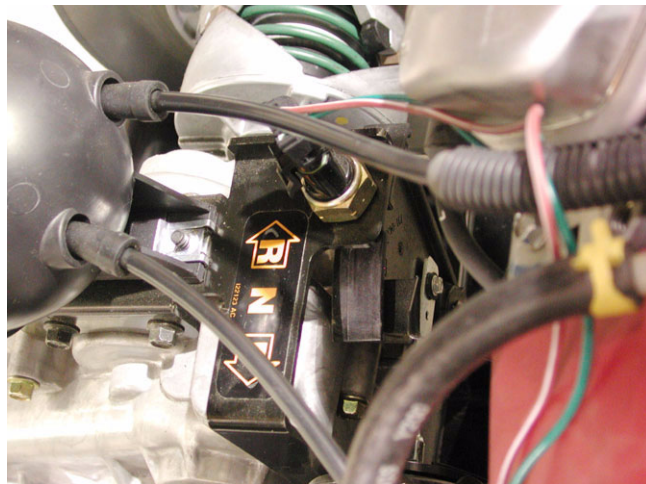

Figure 3.3
- 3.3. Eliminate the possibility of problems with the electronic controls and vacuum actuated shift mechanism before assuming there is an internal problem with the transaxle. Isolate the transaxle. This may be done by operating the transaxle manually for test purposes. See Figure 3.3.